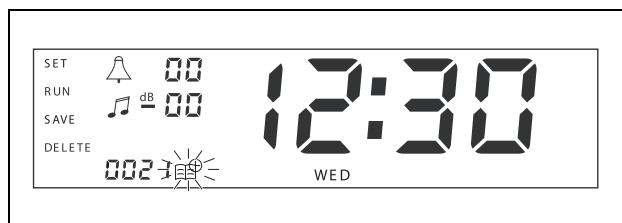

figure 7.3: Event symbol with new number displayed
- 7 Select the minutes and confirm. The event symbol will start to flash, and the next available event number will be displayed (see figure 7.3).